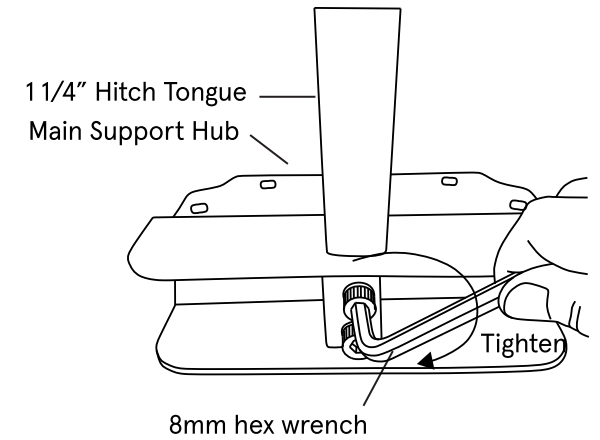

Fig. 4
3. Install the two 1 1/4" x 8mm hex head mounting bolts with lock washers into the bottom of the rack base and tighten firmly **(Fig. 4)**.